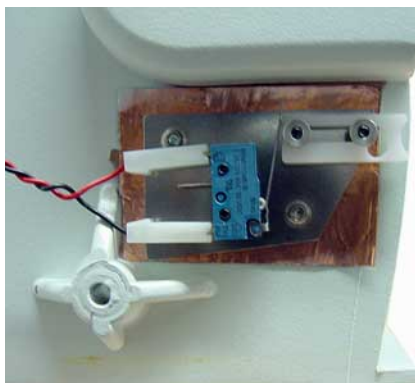

Fig. 3-54 Micro switch unit
3. Pull off the micro switch unit cable from the Pump board (see Fig. 3-54).